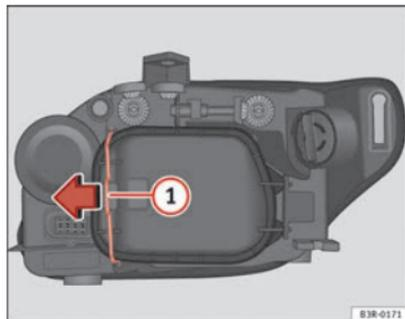

Fig. 199 Side light bulb (outside of vehicle)
- Move the brace ⇒ Fig. 199 ① in the direction of the arrow and remove the rigid cover, separating the brace side and then removing the two tabs from the other end of the cover.